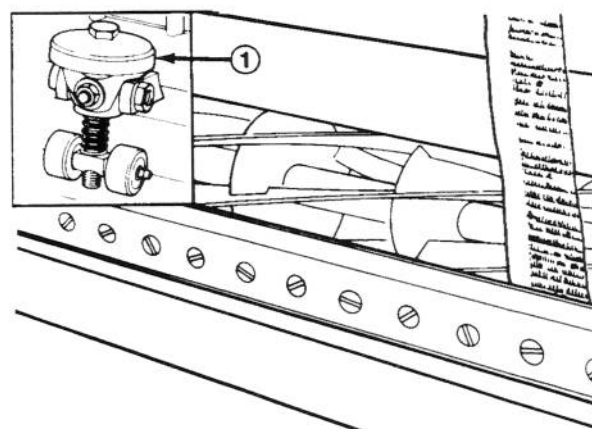

Figure 1
4. Check to make sure bedknife and reel are parallel. On either end of front side of cutting unit insert a long strip of newspaper between reel blade and bedknife. Slowly rotate reel and turn bedknife adjusting knob (using a wrench) (Fig. 1) clockwise one click at a time, until paper is pinched lightly, which results in a slight drag when paper is pulled. Check opposite end for light contact using paper. If light contact is not evident at both ends, bedknife is not parallel to reel. Refer to Parallel Bedknife to Reel, page 8.